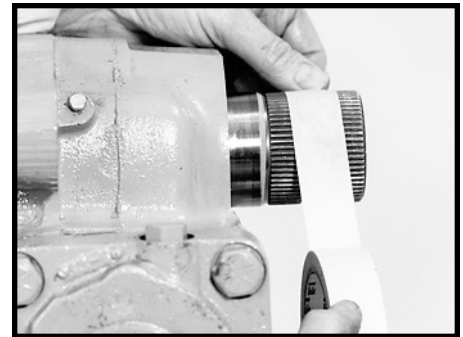

Figure 44
6. Tape the serrations and bolt groove of the sector shaft (48) with one layer of masking tape to prevent loose bearing rolls from "hanging up" the sector shaft during its removal. The tape should not extend on to the sector shaft bearing diameter. SEE FIGURE 44.